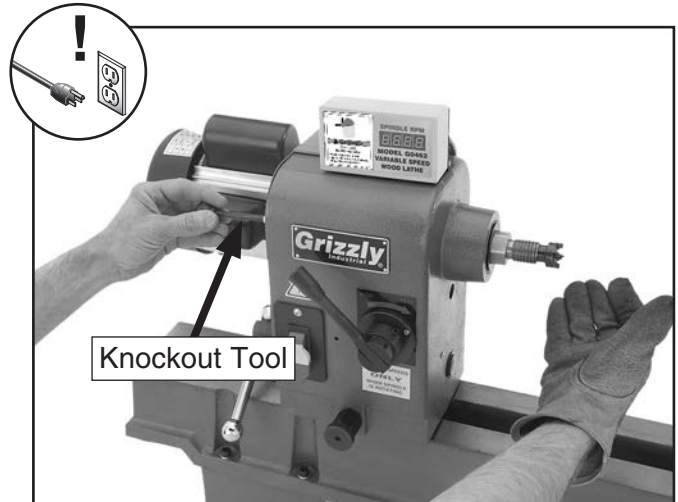

Figure 23. Removing spur center using the knockout tool.
3. Insert the knockout tool through the outboard end of the spindle and firmly tap the center until it breaks loose (see **Figure 23**).